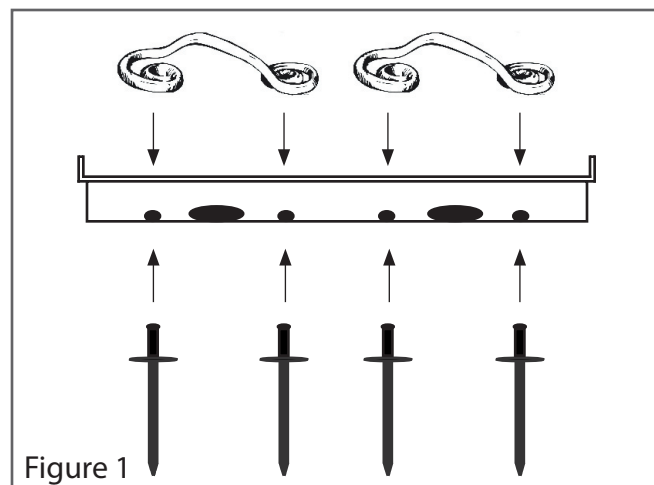

Figure 1
Secure Steel Springs (C) to Box Mount (A) using Aluminum Rivets (D). Figure 1.